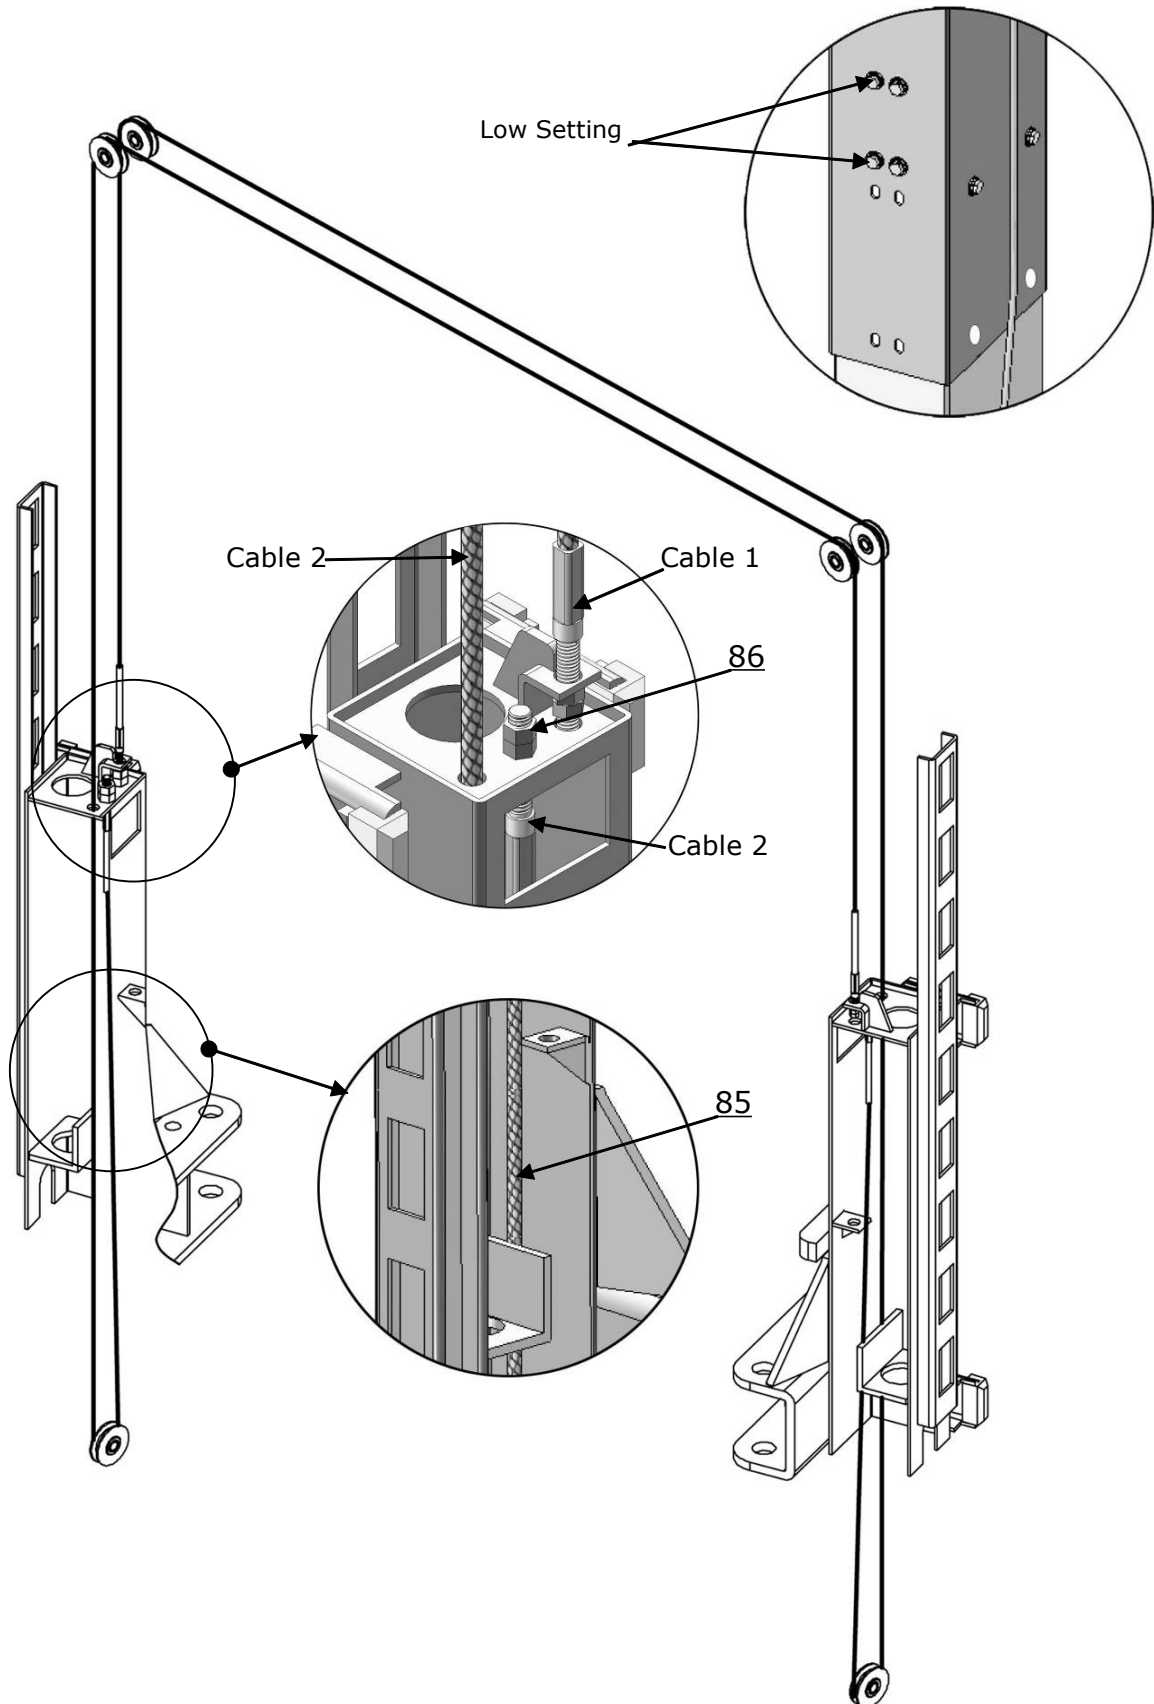

Fig. 23
1. **Low setting cable connection.** Suitable for ceiling height less than 3850mm (151 1/2") (See Fig. 23).